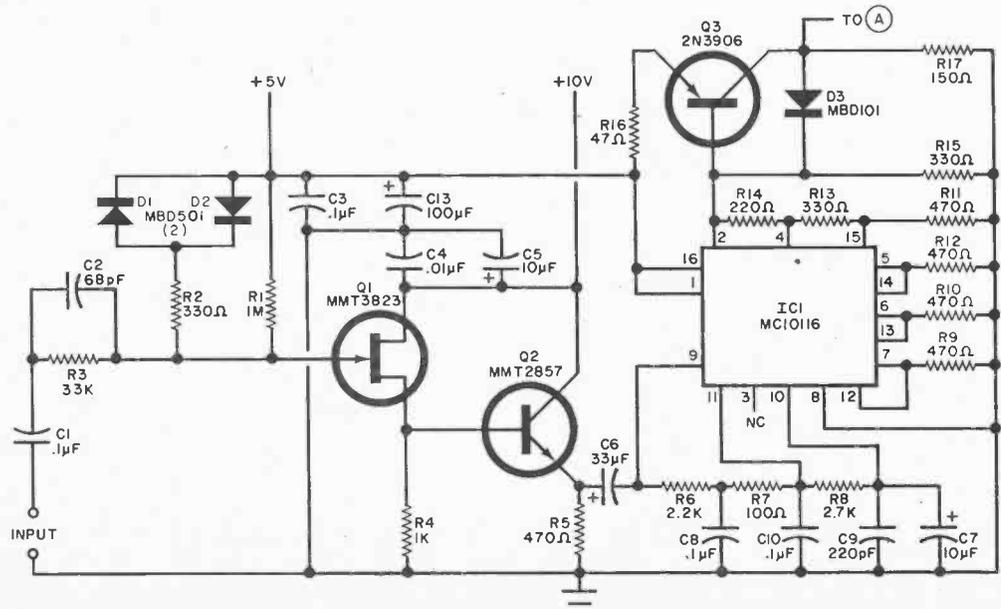

Fig. 1. Schematic diagram of counter's input stage.
**About the Circuit.** The frequency counter is illustrated schematically in Figs. 1 and 2. Input signals are coupled by *C1* to transistors *Q1* and *Q2*, which comprise a unity-gain buffer with a high input impedance. Diodes *D1* and *D2*, together with *R3*, protect the buffer from excessive input signal levels. A 10,000-series ECL triple line receiver, *IC1*, amplifies the voltage developed across *R5*. The third stage of this IC is used as a